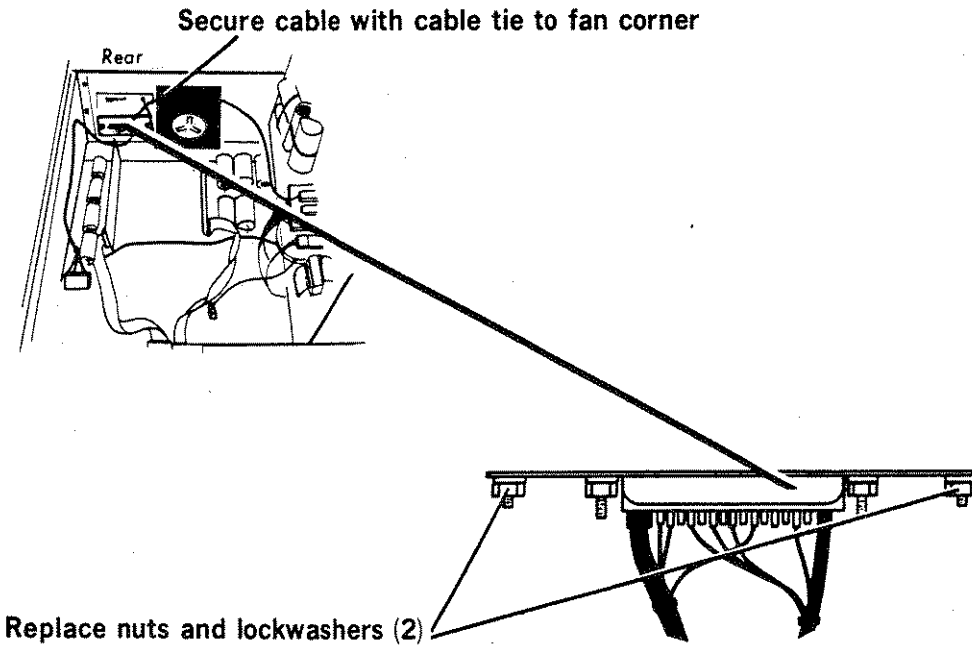

Figure 7-17. Attaching the Test Connector to the Rear Location
STEP 6. Bolt the Test connector in place in the rear of the instrument. Refer to Figure 7-17. Be careful to follow the cable routing shown in the figure.
STEP 7. Secure the cables that route over the fan using the cable tie supplied with the instrument. Refer to Figure 7-17.